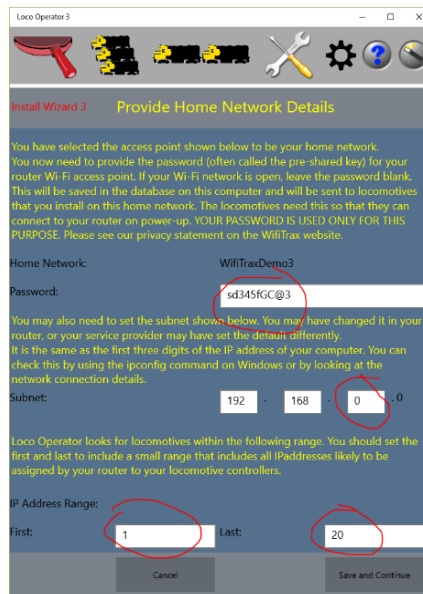

Figure 13 Providing the details of your home network
- (4) When you have selected the right network, click Continue and you will see the Install Wizard 3 page as in Figure 13.
- (5) On the page in Figure 13 you need to provide some details for your Home Network.